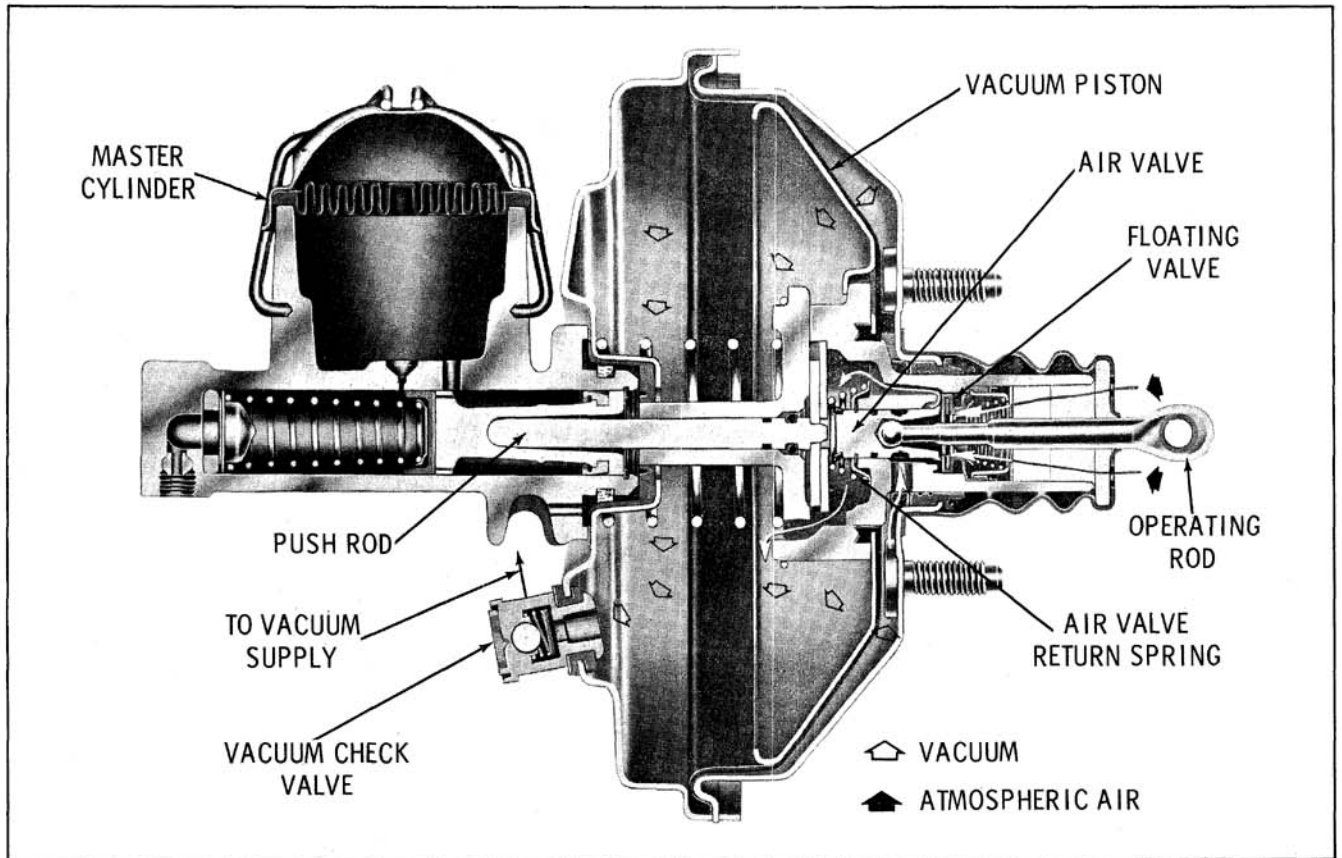

Fig. 11-26 Released Position
**MORaine POWER BRAKE****PRINCIPLES OF OPERATION****Released Position (Fig. 11-26)**
**Releasing (Fig. 11-26)**